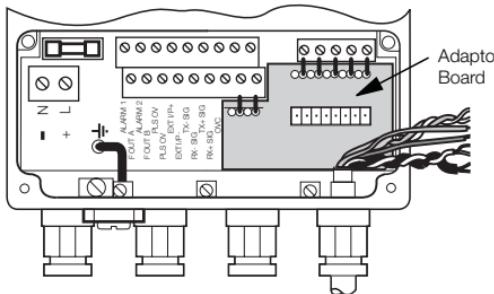

Fig. 3.2 Fitting the Adaptor Board
3. Carefully ease the sensor wiring to one side and fit the adaptor board so that the extended pins fit into the terminals – see Fig. 3.2. Tighten the terminal screws.